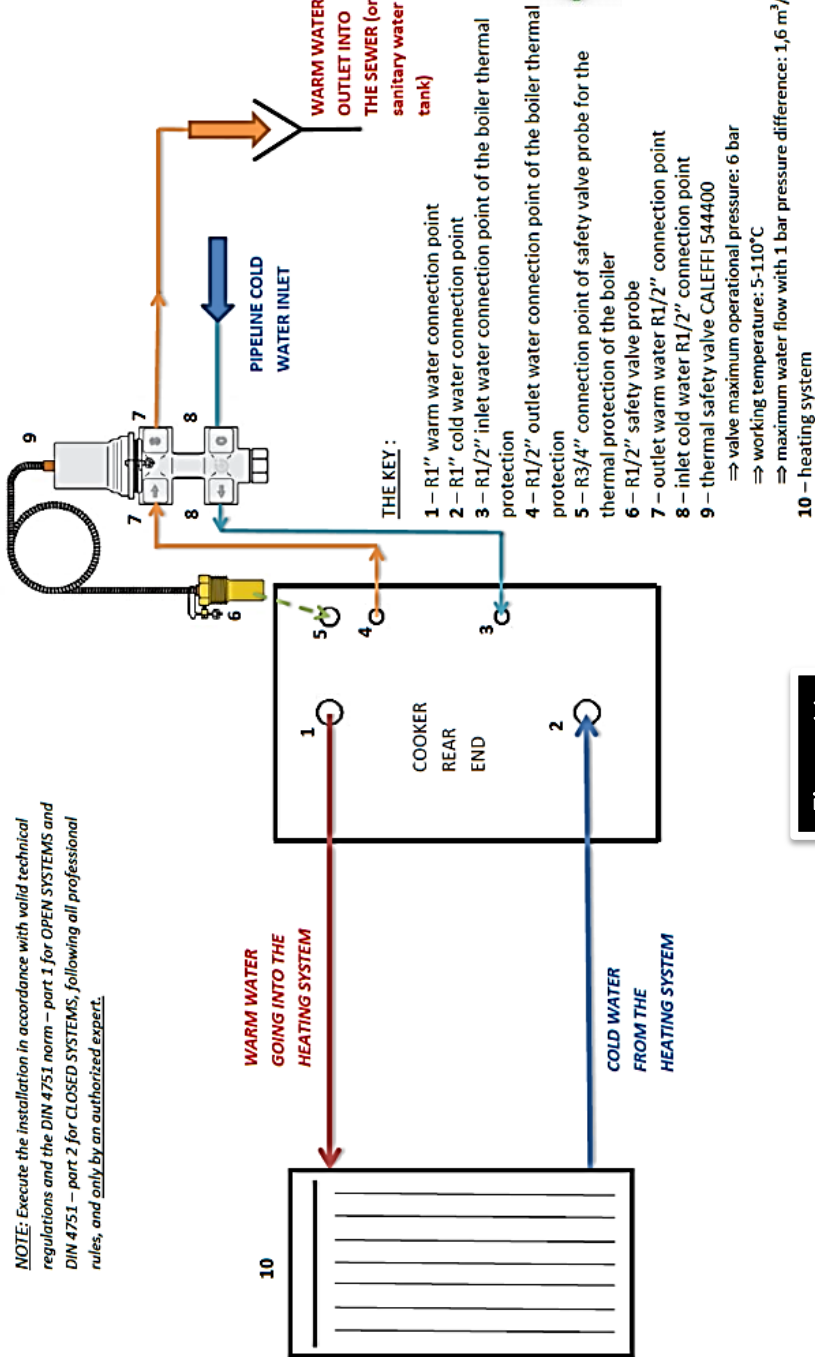

Figure 11
- **R1/2" (7)** - *Figure 11*, OR